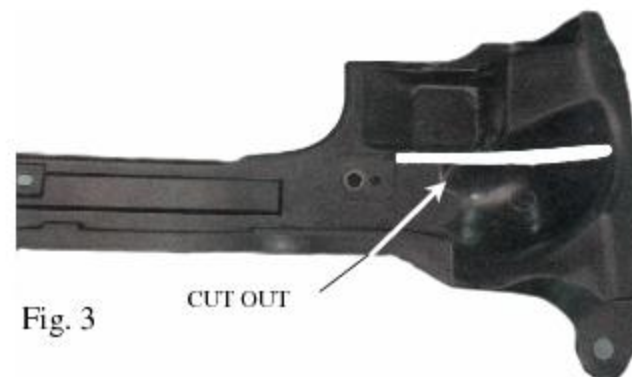

Fig. 3
6. Reassemble the plastic covers- cut left one according to the fig. 3.
7. Fix body of the automat (pos. 7) and the socket plate (pos. 3) using bolts M12x25mm (pos. 5) from accessories. Place tow-ball (pos. 2) according to supplied instruction.